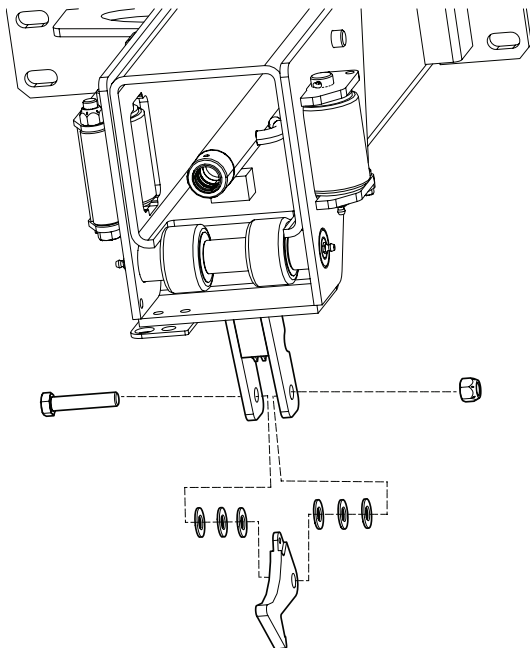

Figure 6
6. Install the new bolt and the existing washers to secure the arm hook latch component to the latch mounting bracket. (Figure 6).